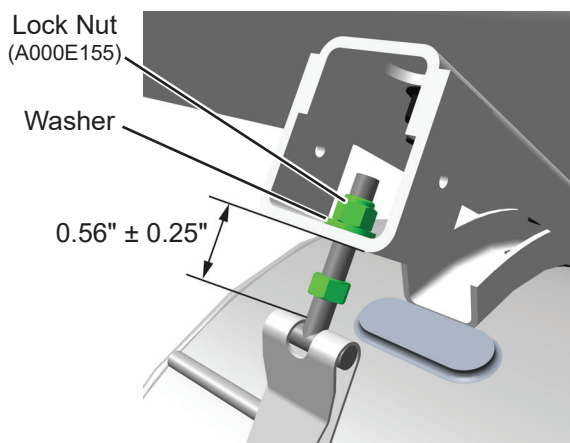

Figure 5 - Top Tank Strap Measurement
8. Reinstall tank strap top T-bolts into tank mounting brackets and install flat washers, removed in Step 5, and lock nuts (A000E155). Tighten lock nuts until the distance between the face of the mounting bracket and edge of tank strap is  $0.56'' \pm 0.25''$ . See Figure 5.